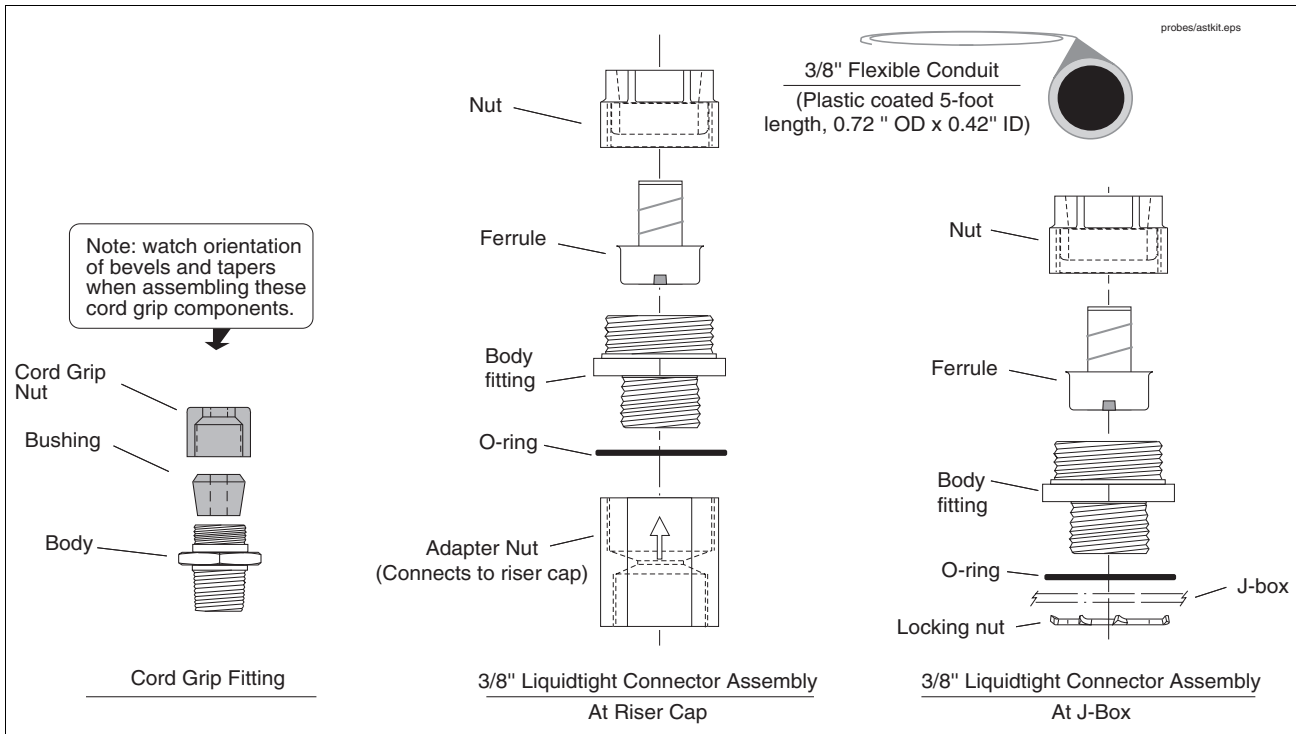
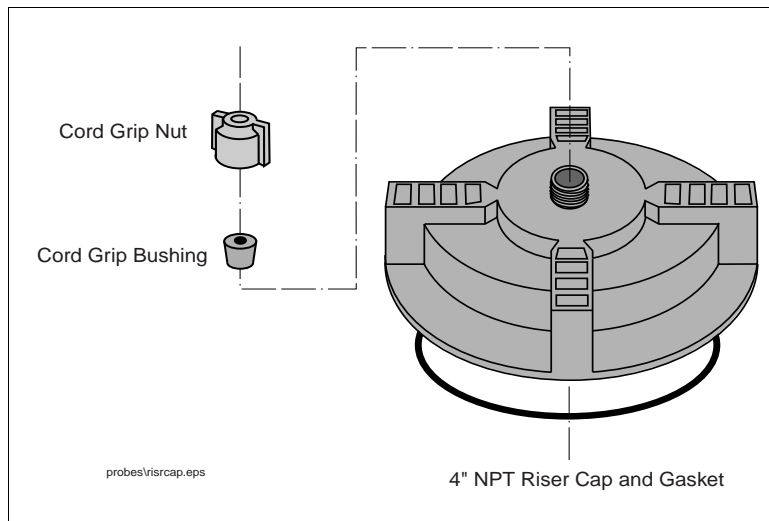
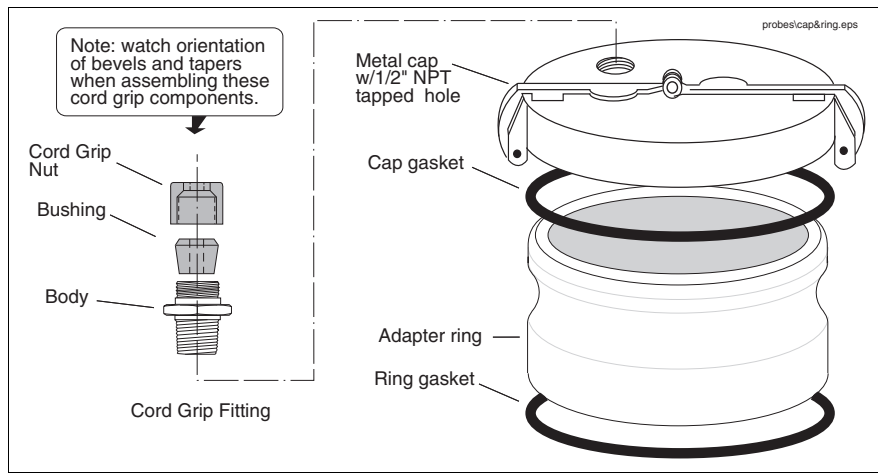

Figure 3. Mag Probe AST Installation Kit
Figure 6. Cap and Cord Grip Kit
Figure 7. Metal Cap and Ring Kit
This kit is recommended when installing Mag Probes into an above ground storage tank (AST). This kit contains a length of flexible conduit, connectors, etc., for easier probe access. The kit contents are listed in Table 1 and shown in Figure 3.
This Riser Cap kit (Table 4) contains a non-metallic cap which screws onto the 4" NPT riser (Figure 6). The cap comes drilled and tapped with a cord grip.
This riser cap kit contains an adapter ring which screws onto the 4"NPT riser and a quick-release metal cap which clamps onto the ring (Table 5). The cap comes drilled and tapped with a cord grip (Figure 7).
1. If you are using the one piece cap (see Figure 6 on page 9), push the end of the probe cable through the cord grip bushing and nut on the cap, leaving a minimal amount of slack between the probe and cap. Screw the cap onto the riser by hand until the gasket first contacts the pipe. Then lightly tap the cap with a hammer to tighten it an additional 3/4 turn. Go to Step 3.
2. If you are installing the metal cap and adapter ring (see Figure 7 on page 10), screw the ring onto the 4" riser until the gasket contacts the pipe, then use a pipe wrench to tighten it an additional 3/4 turn. Push the cable through the metal cap and cord grip, then clamp the cap onto the ring.
1. If you are using the one piece cap (see Figure 6 on page 9), push the end of the probe cable through the cap and cord grip bushing, leaving a minimal amount of slack between the probe and cap. Discard the cord grip nut and attach the adapter Nut from the AST kit to the cap (see Figure 3 on page 6). Tighten the adapter Nut until the cable is held firmly. Go to Step 3.
2. If you are installing the metal cap and ring (see Figure 7 on page 10), screw the ring onto the 4" riser until the gasket contacts the pipe, then use a pipe wrench to tighten it an additional 3/4 turn. Using UL-classified pipe sealant (suitable for the fuels involved), screw the cord grip fitting into the tapped hole and tighten. Place the cord grip bushing in the fitting. Discard the cord grip nut and loosely screw the adapter Nut from the AST kit onto the cord grip fitting (see Figure 3 on page 6). Push the cable through the metal cap, bushing, and adapter nut, then clamp the cap onto the ring. Make sure there is a minimal amount of slack between the probe and cap, then tighten the adapter Nut until the cable is held firmly.
3. Next assemble the liquidtight connectors on both ends of the flexible conduit as shown in Figure 3. Push the cable through the flexible conduit assembly and into the J-box. Connect the flexible conduit assembly to the adapter Nut on one end and the J-box on the other.